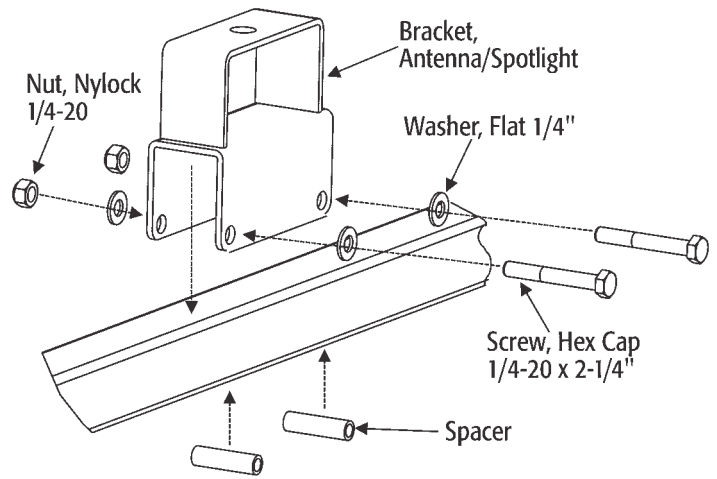

Fig. 5
2. Install all hardware *as shown in Fig.5*. Make sure to place spacers into opening of U-shaped base to prevent collapsing of this part.